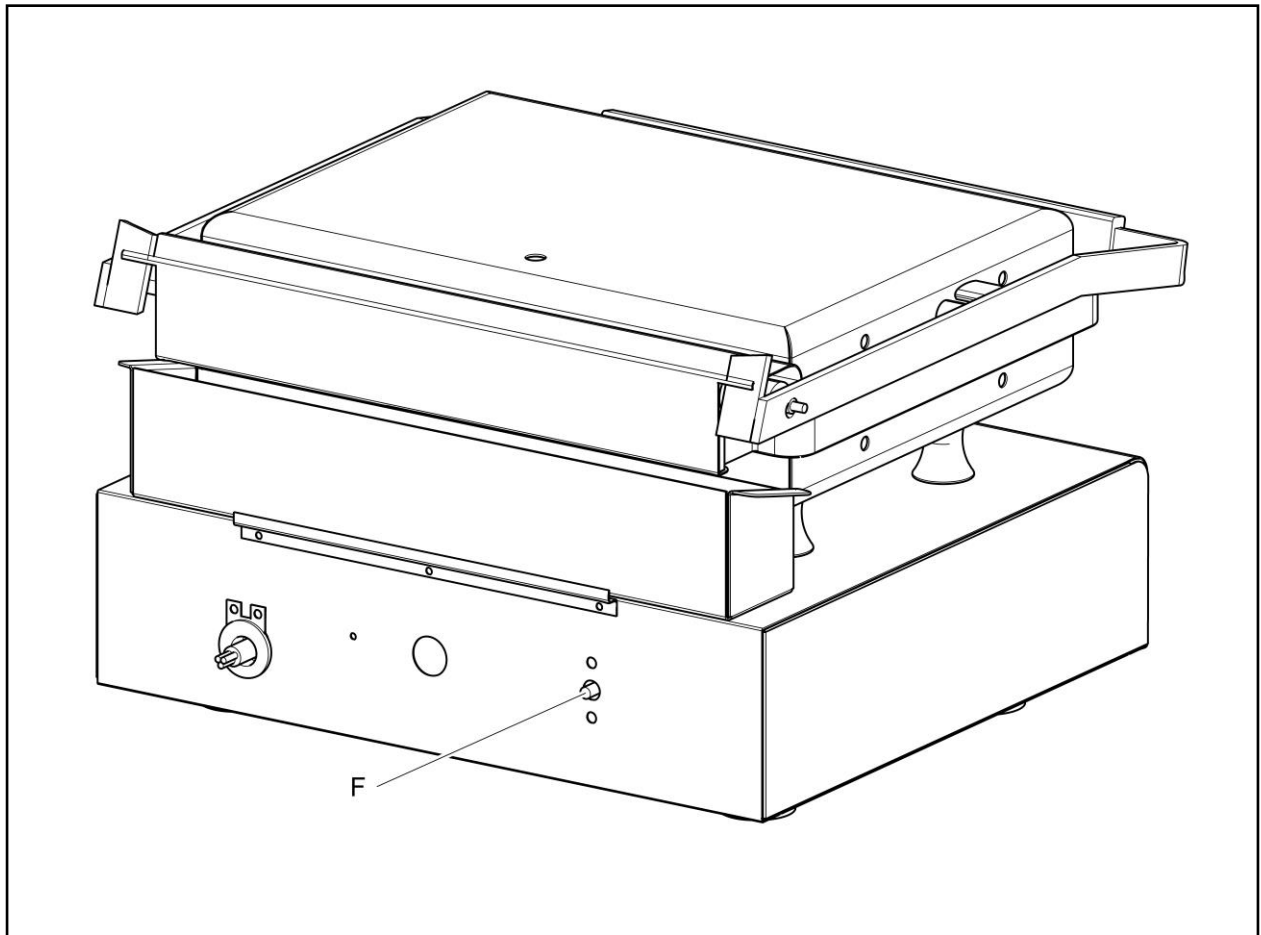

Fig 3
This appliance is fitted with a safety thermostat to cut off the power in the event of a fault. If the green neon illuminates but the plates do not heat, reset the safety thermostat by pressing the red button (F) on the rear panel indicated in Fig 3. The grill must be cool before the safety thermostat can be reset.